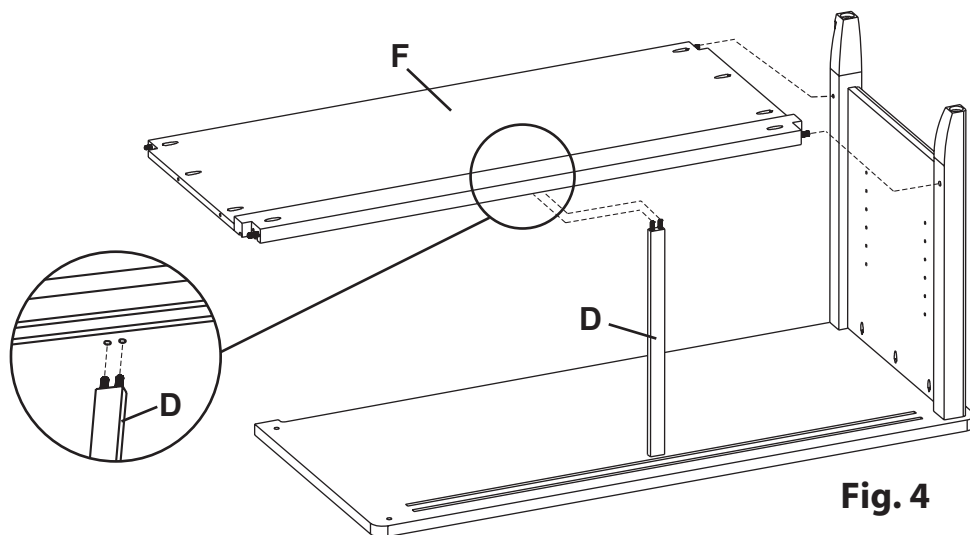

**Fig. 3**
3. Place a thin film of glue into the dowel holes found in the middle of the Top and insert the Divider (D). Gently tap with a padded hammer and quickly wipe away any excess glue with a damp rag. See Figure 3.